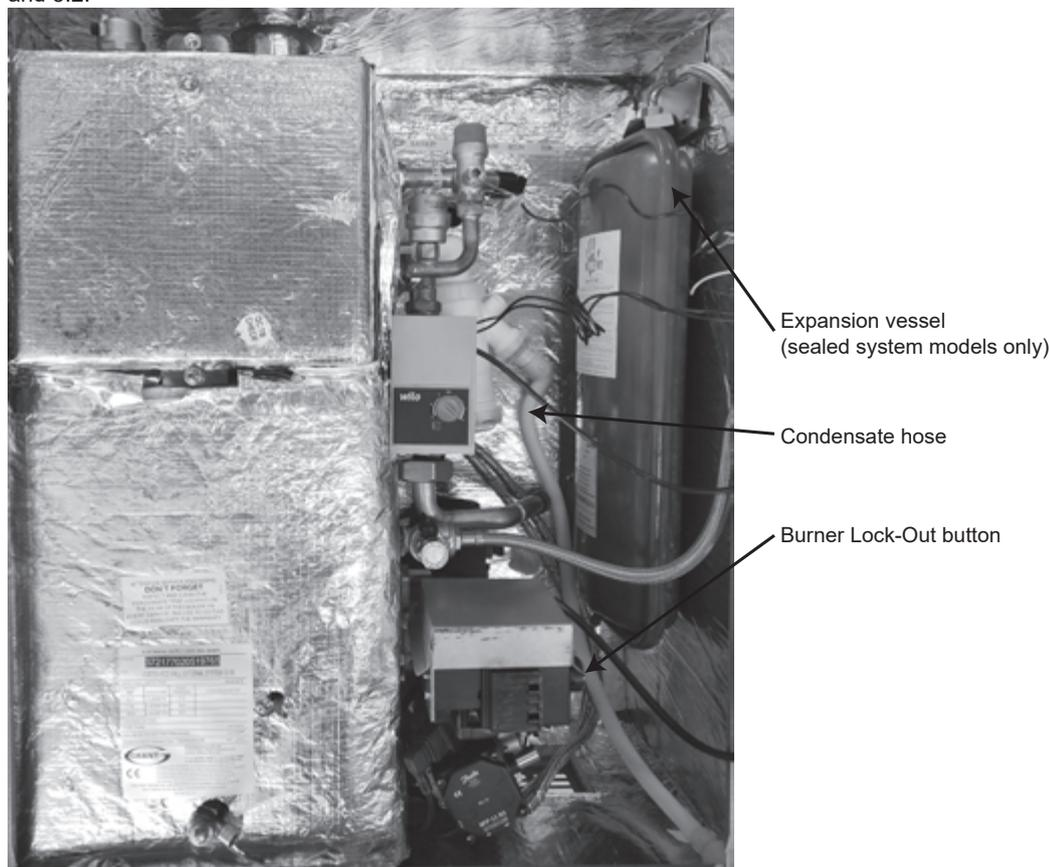

Figure 1-1: Boiler components (sealed system boiler shown)
To gain access to the boiler controls, remove the front casing door by turning the handle at the bottom anti-clockwise, pulling the door out at the bottom and withdrawing it from the casing to reveal the boiler controls as shown in Figure 1-1.
4. Check if the burner 'Lock-Out' reset button on the burner body (refer to Figure 1-1 for location) is lit.